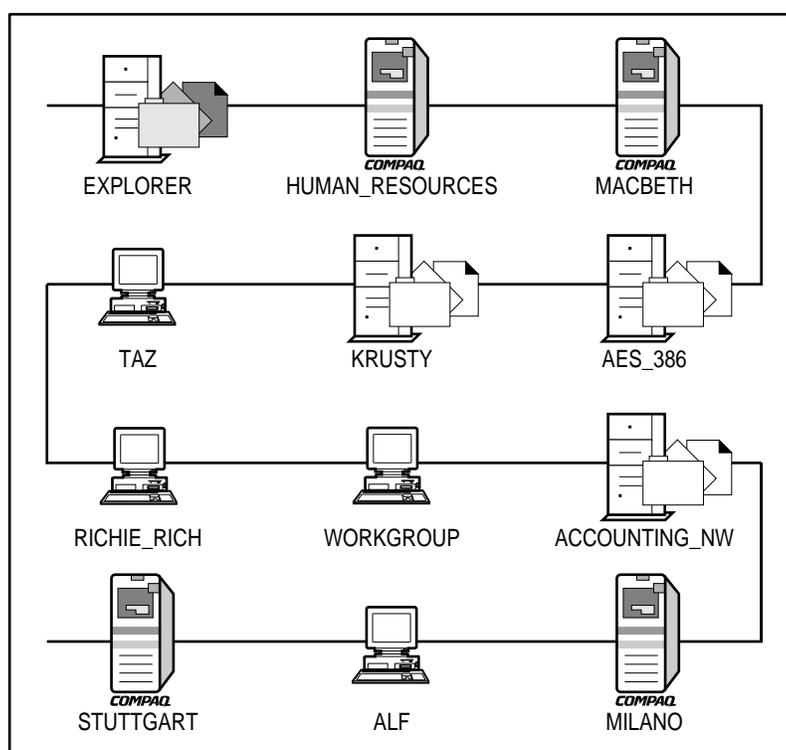

Figure 5-3. Network management map after integration
1. Select a Compaq managed server icon from the ManageWise network management map as shown in Figure 5-3.
1. Select the NetWare server icon located on the network management map shown in Figure 5-3.
1. Select the designated server located on the network management map shown in Figure 5-3.